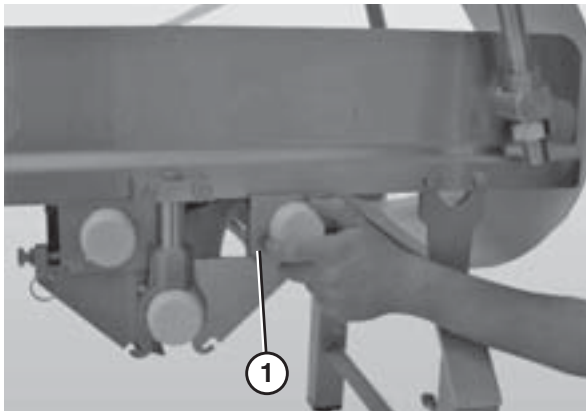

Figure 46
- Slide the tension spindle assembly (Figure 46, item 1) out of the housing.